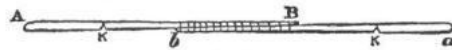

Fig. 1.
1. The keel, stem, and stern might be in one; but, because the stem and stern ought to be strong, this whole line is made of two small trees lashed together with the thick ends outwards, as in fig. 1,